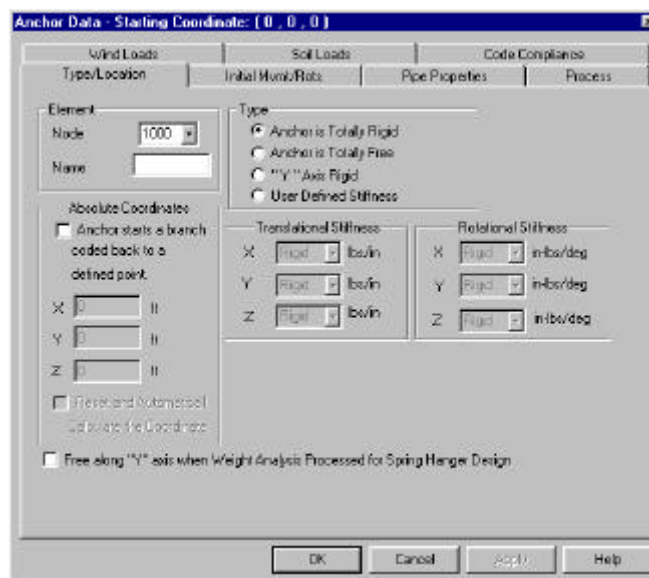

Figure 2.3.3-1 Node 1000, Anchor Dialog, Type/Location Tab
To specify the anchor at data point **1000**, you may either click on **Components** on the Main Menu and select the **Anchor** Menu Item, or click on the convenient **Anchor** Icon on the **Component** toolbar. The Anchor dialogs will be displayed as shown in Figure 2.3.3-1. All of the input fields on the tabbed Anchor dialogs are for the specification of anchor properties, movements and stiffness (translational and/or rotational).
1. Select **Initial Mvmt/Rots** tab – Figure 2.3.3-2
2. Select material for Offset (default is **LS – Low Carbon Steel**), Temperature of Offset (in our case 200 °F) and type in Offset at a distance of 27 feet, 6 inches (this is typed in as **27-6**). This distance is the actual distance from the true anchor to the point where the piping system components begin. TRIFLEX® Windows will calculate the vertical growth for data point **1000** from the true anchor point to the start of the piping system as shown in Figure 2.3.3-2.